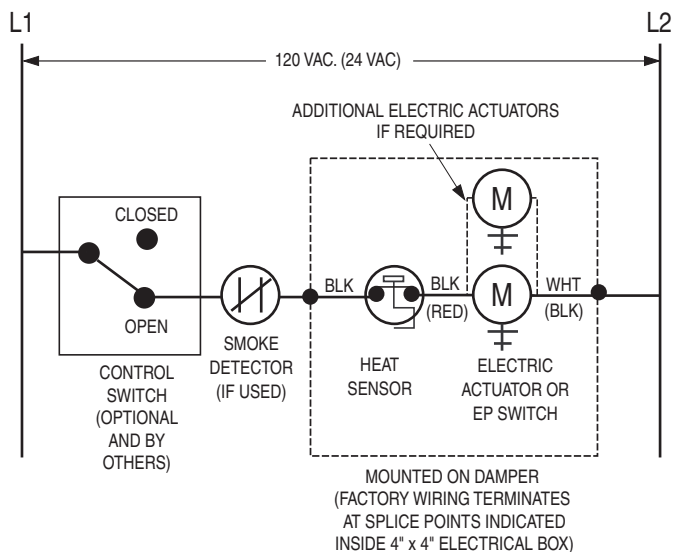

Figure 1. ERL Wiring
- ERL (Electric Resettable Link):** Dampers are supplied with an electric thermostat-type temperature responsive device as standard. Refer to Figure 1 for wiring of the ERL. If dampers are ordered with a pneumatic actuator and ERL, an EP switch is required with an appropriate electric power circuit to allow the ERL to control the pneumatic actuator.